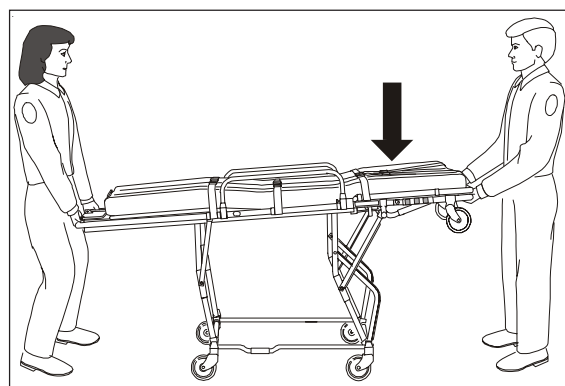

Figure 12 - Loading to High-Level Rolling
1. *Both Operators:* Grasp main frame and lift weight of cot slightly off wheels. Wheels should remain on ground. (Figure 12).